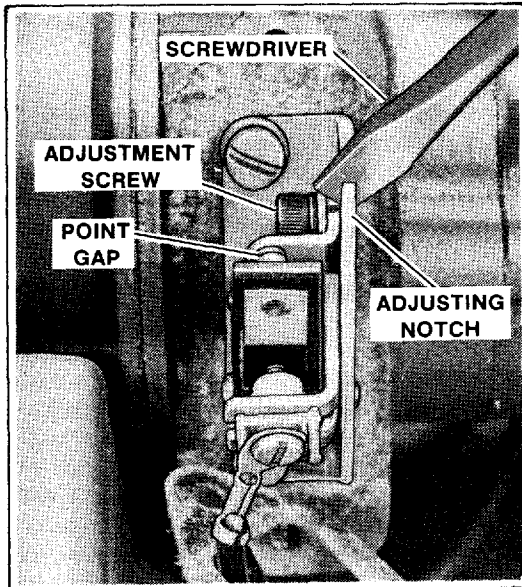

Figure 6. Breaker Point Gap Adjustment
3. Flick the starter button to slowly turn the engine over while observing the breaker points. Rotate the engine until the points reach maximum opening. See Figure 6.
4. Measure the gap with a feeler gauge. The gap at full open should be 0.020 inch (0.51 mm). If not, loosen the point gap adjustment screw with an offset screwdriver. Adjust the gap to 0.020 inch by inserting a screwdriver blade in the adjusting notch and shifting the movable plate. See Figure 6. Securely tighten the adjusting screw after setting the gap.